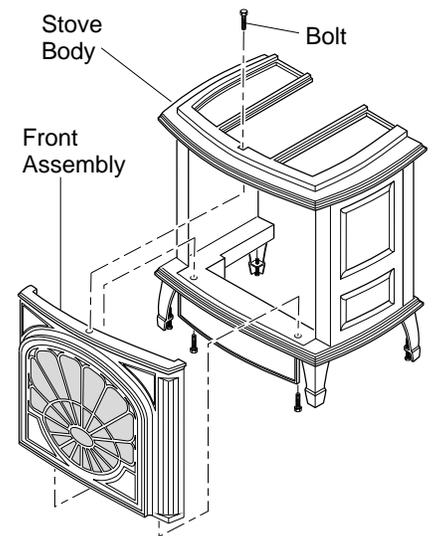

**Figure 11 - Attaching Stove Door**
- Attach stove door by inserting step bolt through door hinge pivot hole and into threaded hole in stove body (see Figure 11 and Figure 9 on page 5). Use an adjustable wrench or a 12mm socket to fasten step bolt. Tighten step bolt until snug. Make sure door moves freely.